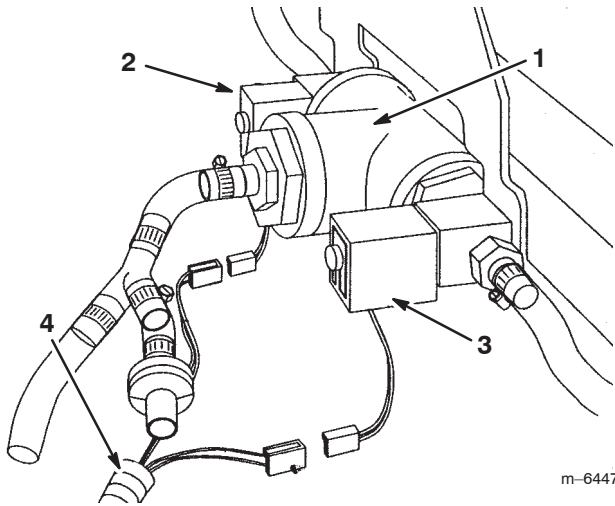

Figure 8
2. Locate the connectors in the rear wiring harness of the sprayer (Fig. 8).